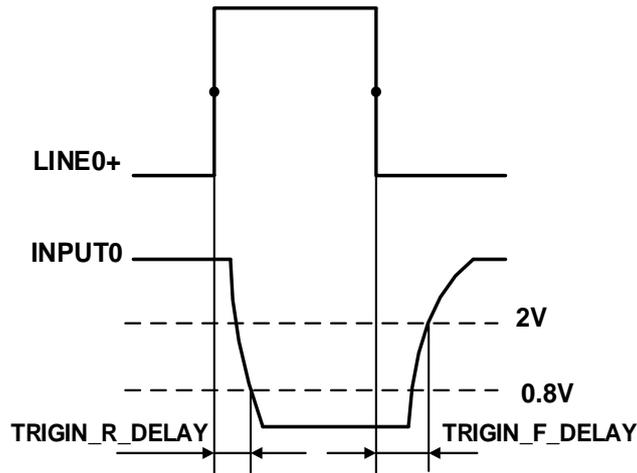

Figure 7-4 Parameter of opto-isolated input circuit
- Rising edge delay: <math><50\mu\text{s}</math> ($0^{\circ}\text{C}\sim 45^{\circ}\text{C}</math>), parameter description as shown in Figure 7-4$
- Falling edge delay: <math><50\mu\text{s}</math> ($0^{\circ}\text{C}\sim 45^{\circ}\text{C}</math>), parameter description as shown in Figure 7-4$
- Input rising time delay: $<2\mu\text{s}$ ($0^{\circ}\text{C}\sim 45^{\circ}\text{C}$), parameter description as shown in Figure 7-4
- Input falling time delay: $<2\mu\text{s}$ ($0^{\circ}\text{C}\sim 45^{\circ}\text{C}$), parameter description as shown in Figure 7-4